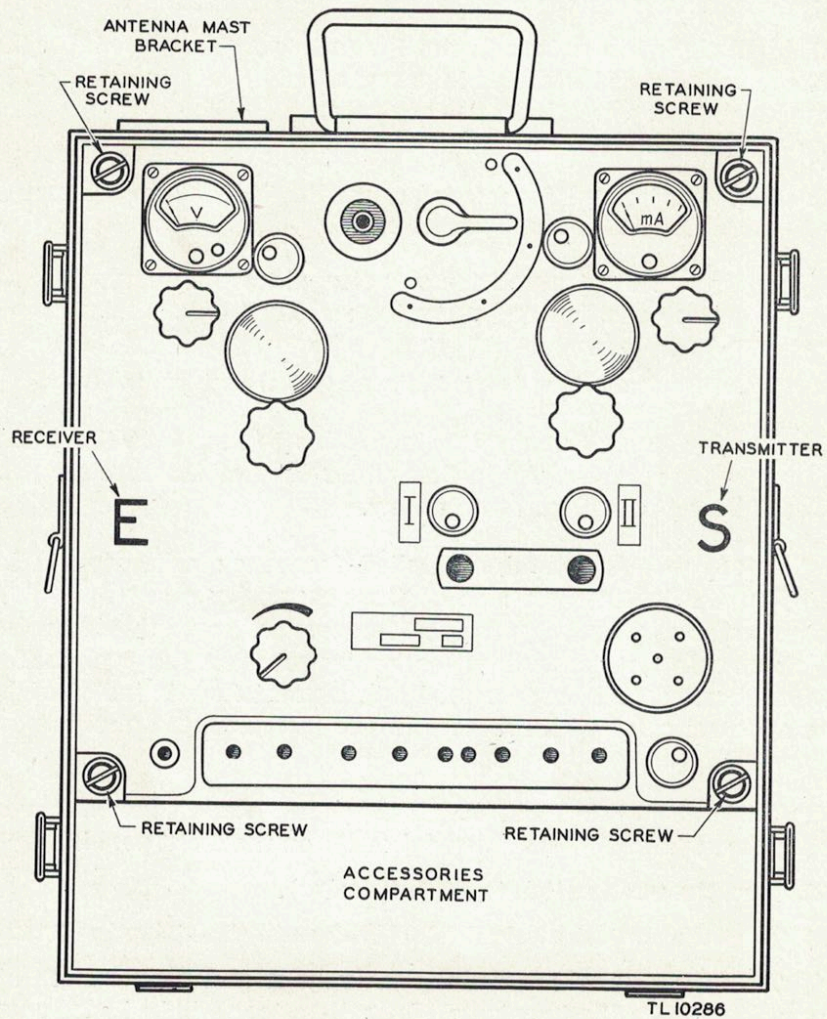
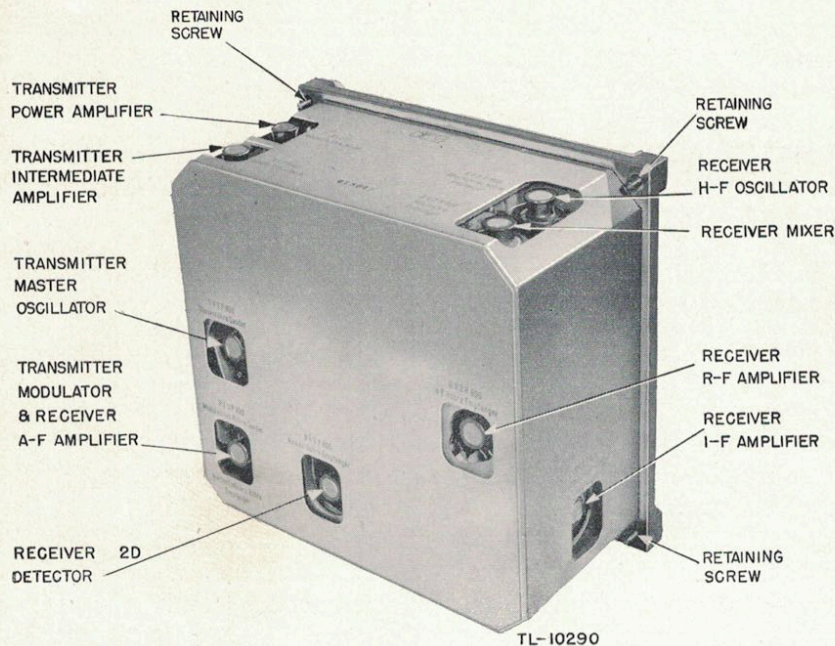

Figure 5. German radio set Torn. Fu. d2., front view.
Figure 6. German radio set Torn. Fu. d2., removed from case, rear view.
c. Replace the tubes in order, starting with the antenna and progressing toward the master oscillator in the transmitter. In the receiver, start with the a-f amplifier and work to the r-f amplifier. To change the tubes, it is necessary to remove the set from its case. Do this by loosening the four retaining screws on the front panel of the set (fig. 5). Each retaining screw is surrounded by a red ring. Then pull the set from the case. Figure 6 is a rear view of the set with the case removed, showing the position and function of all the tubes.